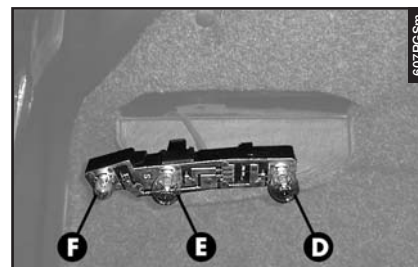

fig. 58
- Remove and replace the bulb concerned (spherical with bayonet coupling) pushing gently and turning counter-clockwise (**fig. 58**):